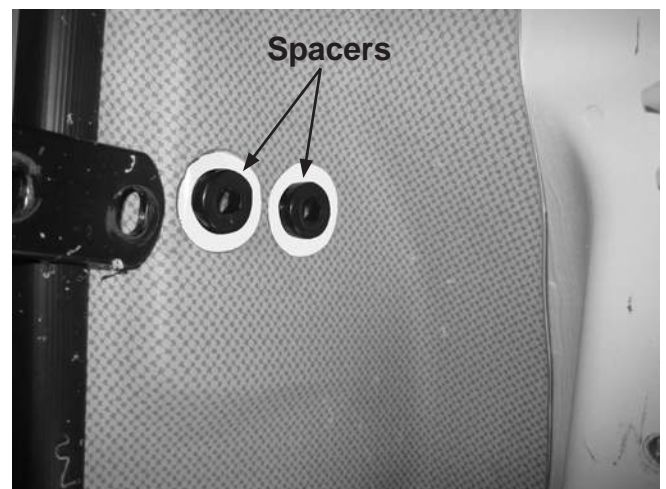

Figure 9-5
9. Place spacers (A5200041-001) for the lower mount flange of the interior grab handle (see *Figure 9-5*).